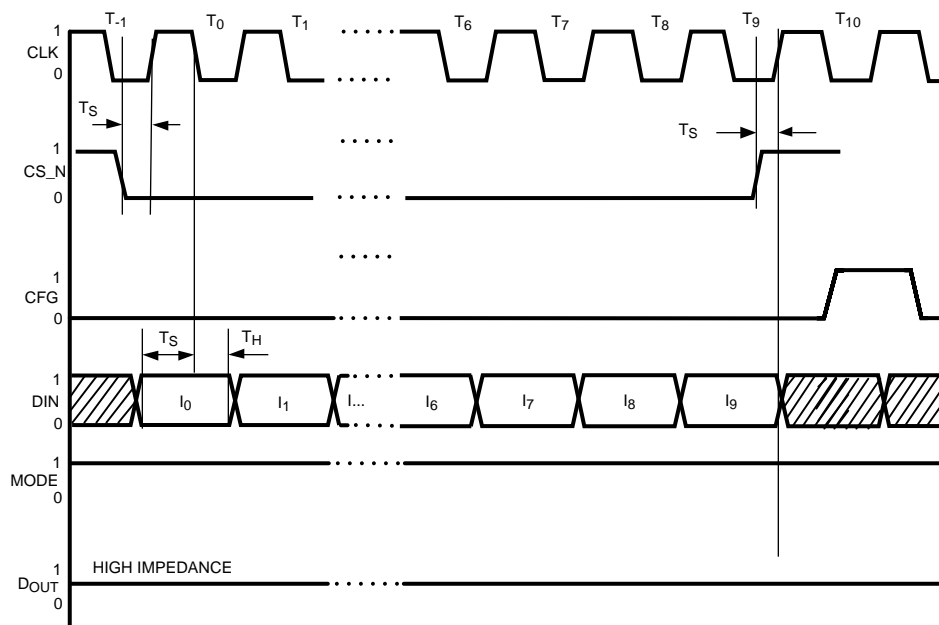

Figure 55. Timing Diagram for Addressed Mode
Also illustrated are the timing relationships for the digital pins in Figure 55. It is important to note that all the pin timing relationships are important, not just the data and clock pins. One example is that the Chip Select pin (CS) must transition low before the first rising edge of the clock signal. This allows the internal timing circuits to synchronize to allow data to be accepted on the next falling edge. After the final data bit has been clocked in, the chip select pin must go high, then the clock signal must make at least one more low to high transition. As shown in the timing diagram, the Chip Select pin state should always occur while the clock signal is low. The configure (CFG) pin timing is not so critical, but it does need to be kept low until all data has been shifted into the crosspoint registers.